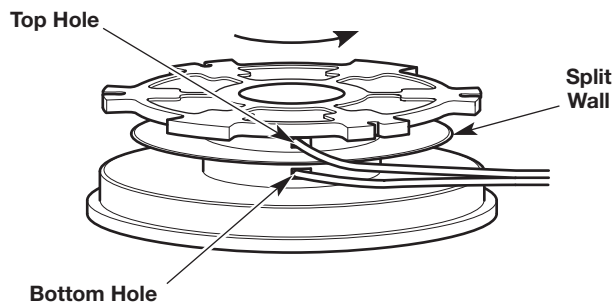

Fig. 18
2. Using one split end, insert one line into the top hole and the other line into the bottom hole in the inner reel (Fig. 18).